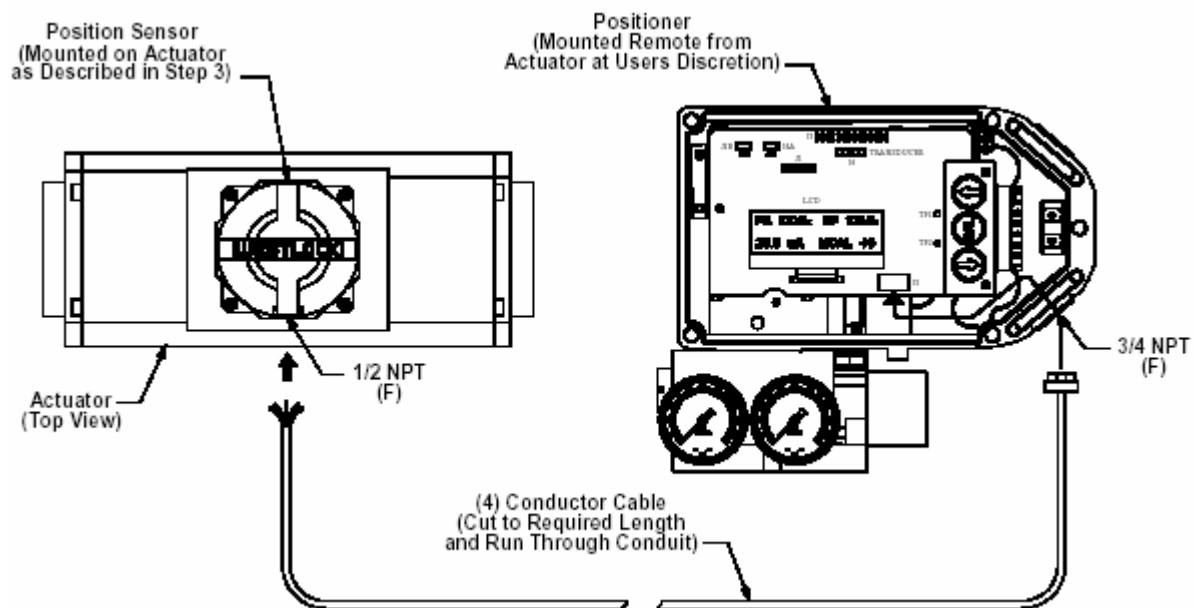

Figure 7
- 8.2.4. Mount positioner at a remote location, wire the positioner sensor back to the positioner using the cable provided (See Figure 7).